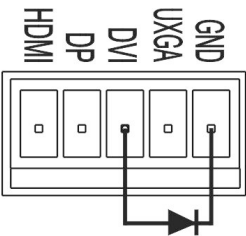

Figure 7: Example Remote Input Indicator LED Wiring for the DVI Input
3. Connect pin 3 from the terminal block to the anode of the remote DVI indicator LED (see the example in Figure 7).